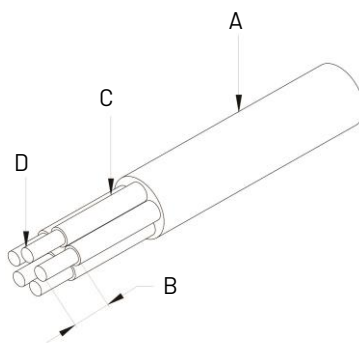

Figure 3-8 Strip off N/L1/L2/L3 cables
- 1) Strip off N/L1/L2/L3 cables as figure 3-8: